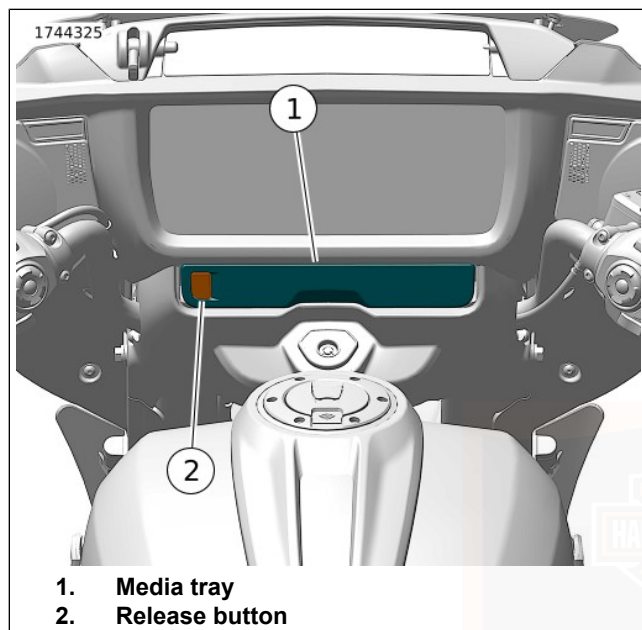

Figure 50. Media Compartment: Fork Mounted Fairing
See Figure 50. The media compartment is an enclosure in the dash which may be used to connect a media device or store small items. Media players and USB storage devices with media files can be connected to the Universal Serial Bus Type-C (USB-C) port. IFCU system updates are also performed through a USB-C storage device.
Open: See Figure 50. Push release button (2) to open media tray (1).